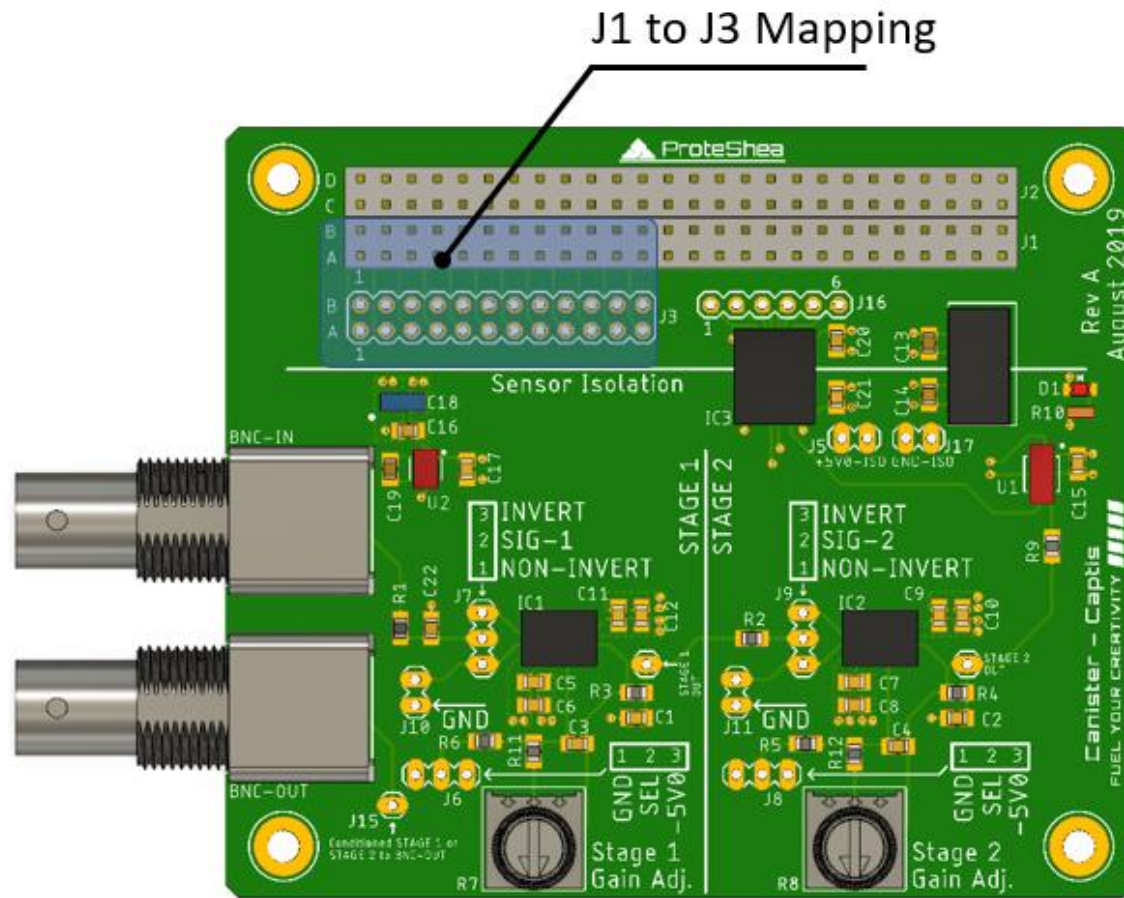
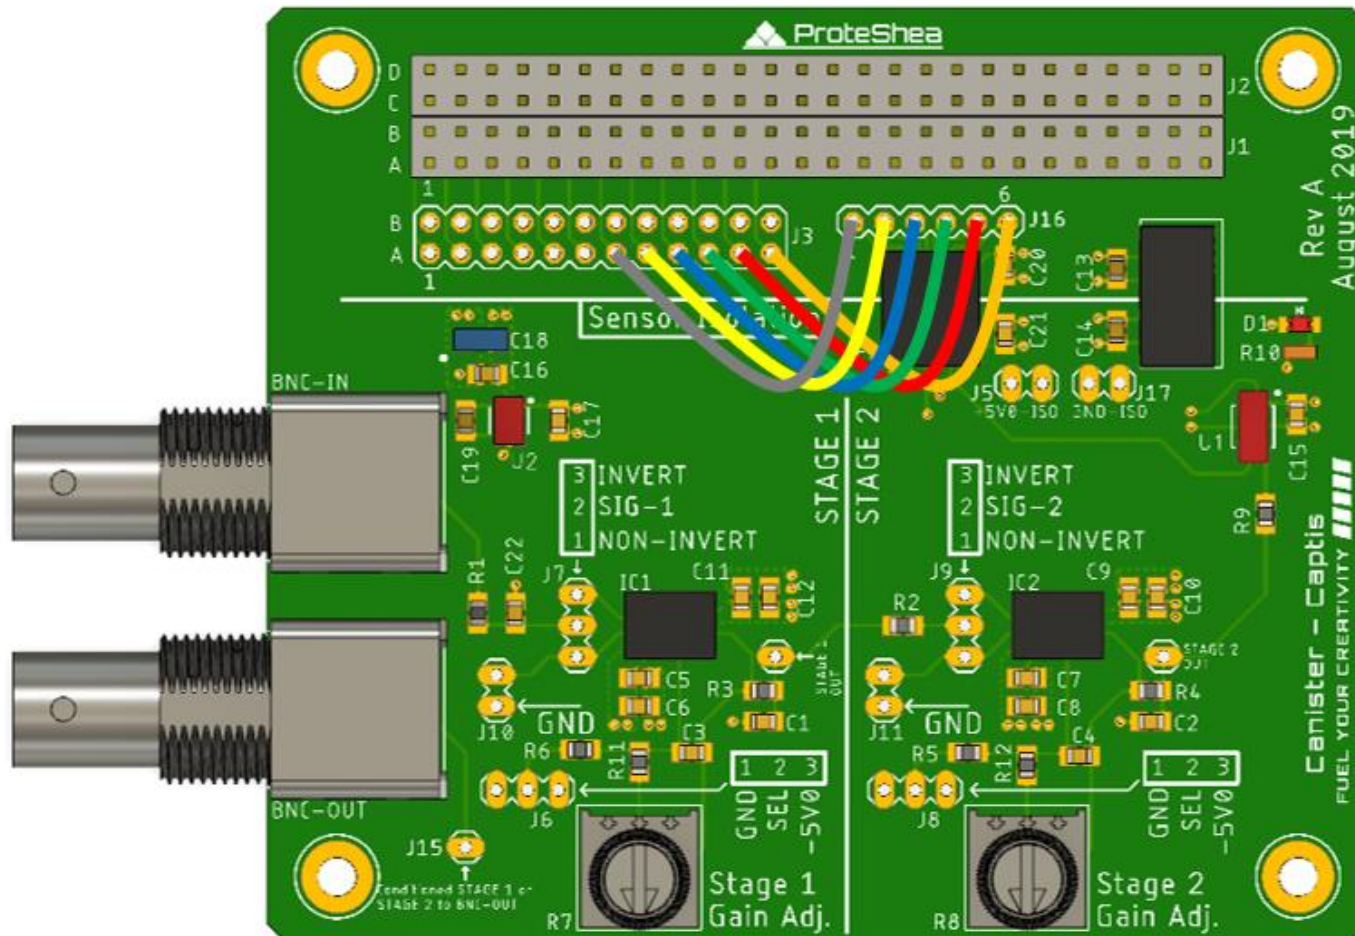

Figure 3. J3 Header Pin Mapping to J1 Header.
Figure 20. Wire Wrap Configuration.
3. Use Fig. 20 below to wire wrap the pins of header J16 to header J3. Refer to Fig. 3 for a description of the 1-to-1 link to determine which pins on the J3 header to wire wrap to. Fig. 20 is used for reference but can be wire wrapped differently depending on user configuration and canister stack.
Fig. 20 shows an example wire wrap configuration for connecting J16 to J3. By wire wrapping J16 to J3, the J16 signals are now routed through to the 4x26-pin connector.